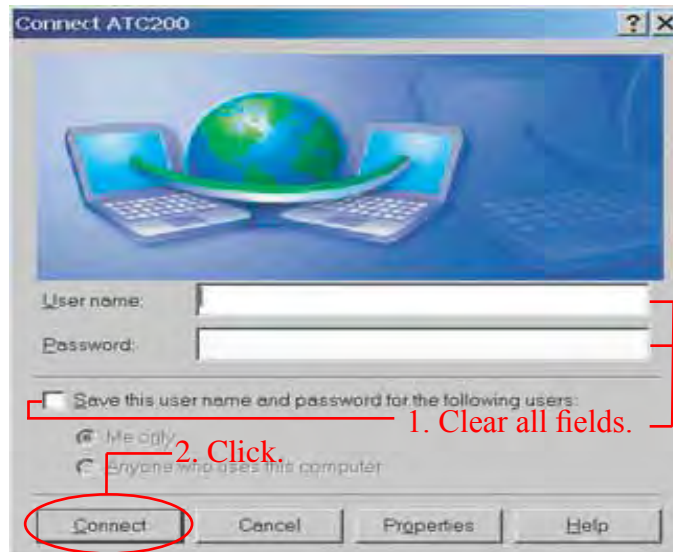

Figure 5-19. Selecting Connect from Login Screen.
1. Clear the **User Name** and **Password** fields. Clear the check box next to **Save this user name . . .** (Figure 5-19).
2. Click on **Connect** (Figure 5-19).